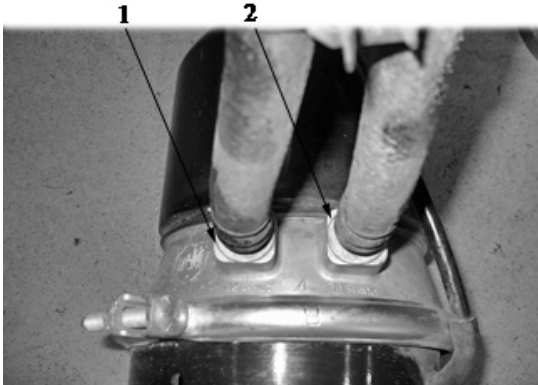

Figure 7. Spring Brake Chamber
15. Remove spring brake chamber hose and service brake hose from spring brake chamber (Figure 7).